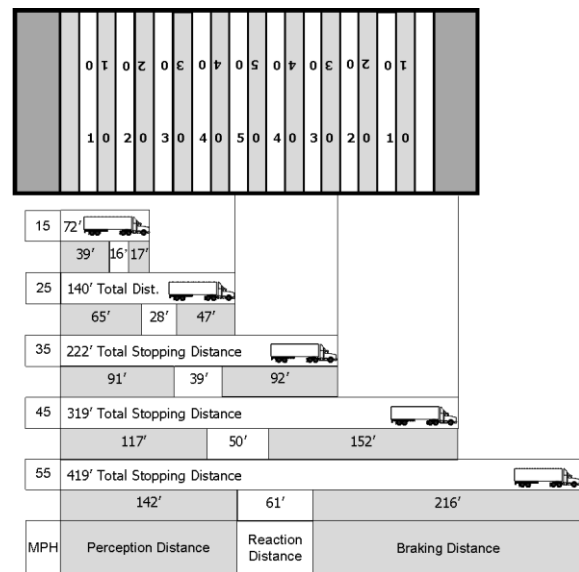

Figure 2.11
**Total stopping distance.** The total minimum distance your vehicle has traveled, in ideal conditions; with everything considered, including perception distance, reaction distance and braking distance, until you can bring your vehicle to a complete stop. At 55 mph, your vehicle will travel a minimum of 419 feet. See Figure 2.11.